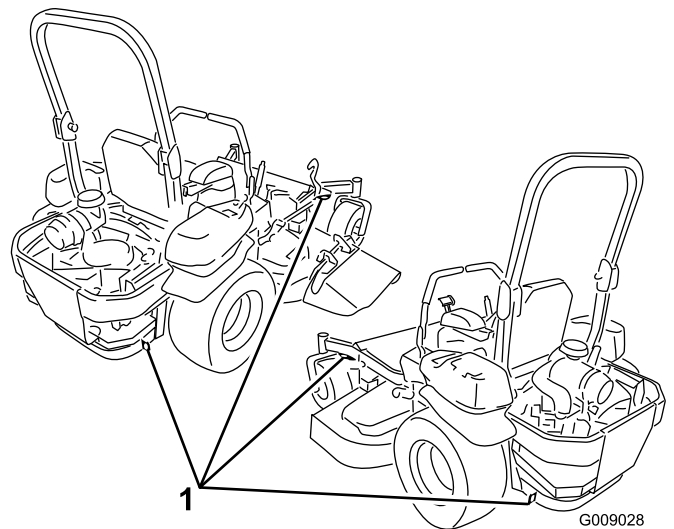

Figure 30
5. Use the metal tie down loops on the machine to securely fasten the machine to the trailer or truck with straps, chains, cable, or ropes (Figure 30).